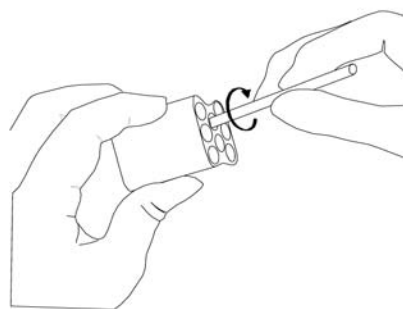

Figure F.1.3b: Re-lubricating 1250 - 250 μ l Pipettors
- 1250 μ l and 250 μ l Pipettors: Use the wooden applicator and O-ring lubricant supplied in the Preventive Maintenance/Autoclave Kit to apply a thin layer of lubrication approximately 0.5 inches (approx. 1.3 cm) down into each piston hole that requires it. Spread the lubricant evenly along the inner wall of each cylinder by using a circular motion with the wooden applicator (see Figure F.1.3b).